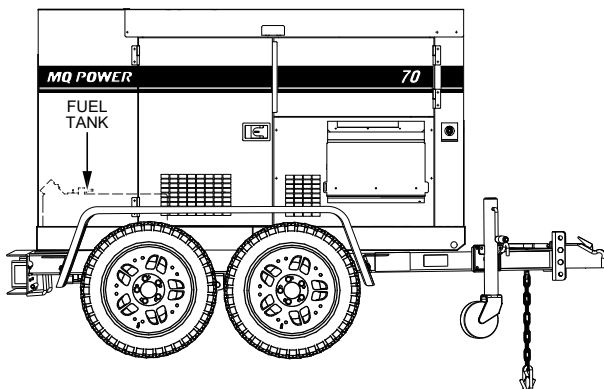

Figure 33. Fuel Tank
**ALWAYS** fill the fuel tank (Figure 33) with clean, fresh #2 diesel fuel. **DO NOT** fill the fuel tank beyond its capacity.